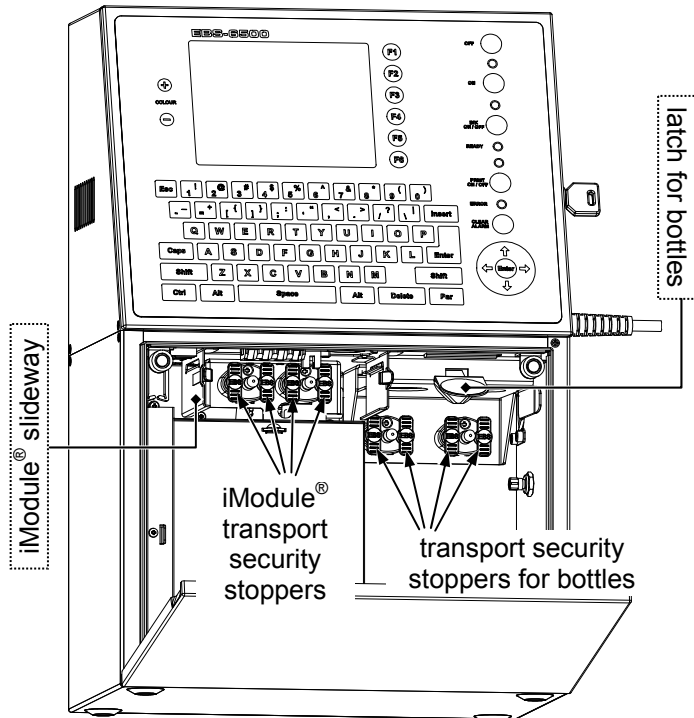

Fig. 2.3.3.1
In the BOLTMARK®-series printers, a bottle of ink/solvent constitutes an integral subassembly consisting of the bottle, a stopper (complete with connections and a suction tube equipped with a filter) and a transponder. In order to install a bottle of ink/solvent in the printer you need to lift the press stud that fixes the bottle (see Fig. 2.3.3.1), and then insert the bottle to the limit so that the press stud rests in the bottle groove. Following the information given on the latch, a bottle of solvent should be connected to the white connection on the left, whereas a bottle of ink - to the black on the right.
2. Place the iModule® in the printer by inserting it along the slideways (see **Fig. 2.3.3.1**) to the limit. When the iModule® reaches its proper position, the latches make a characteristic sound - a "click".